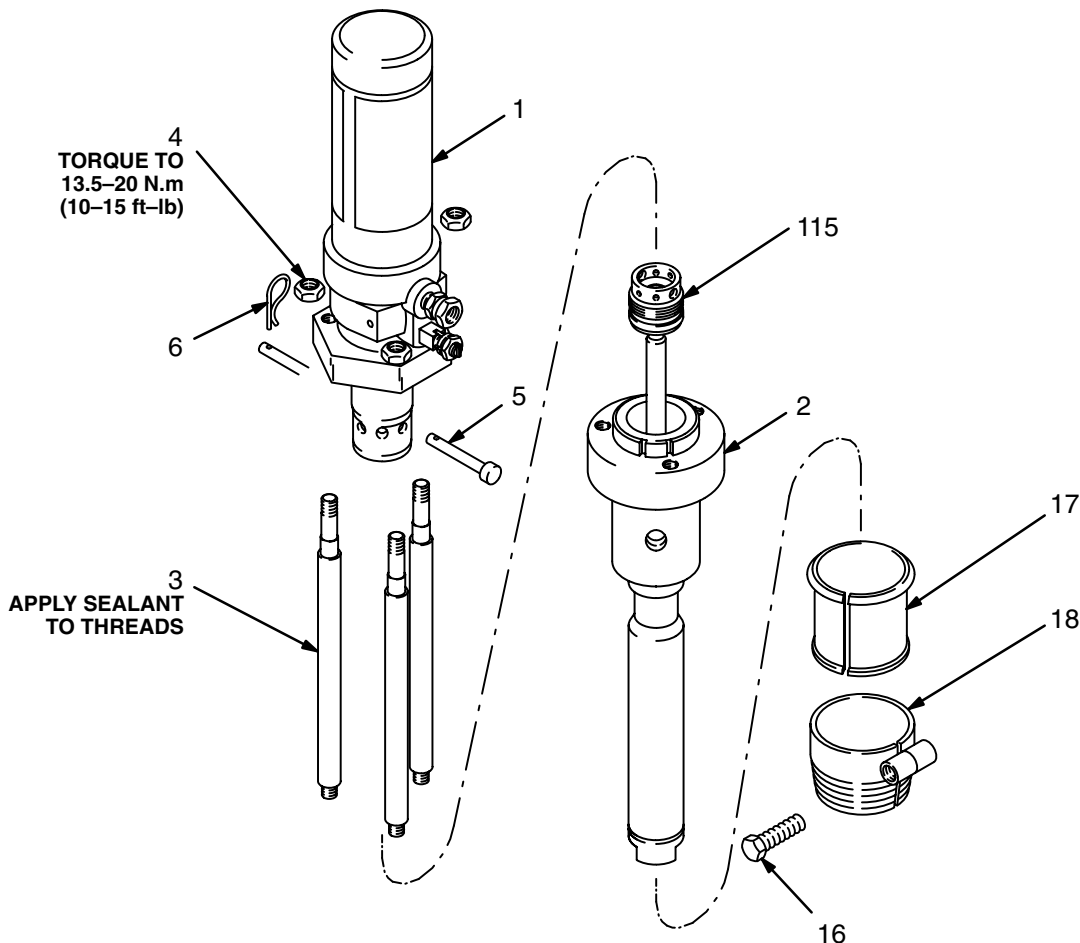
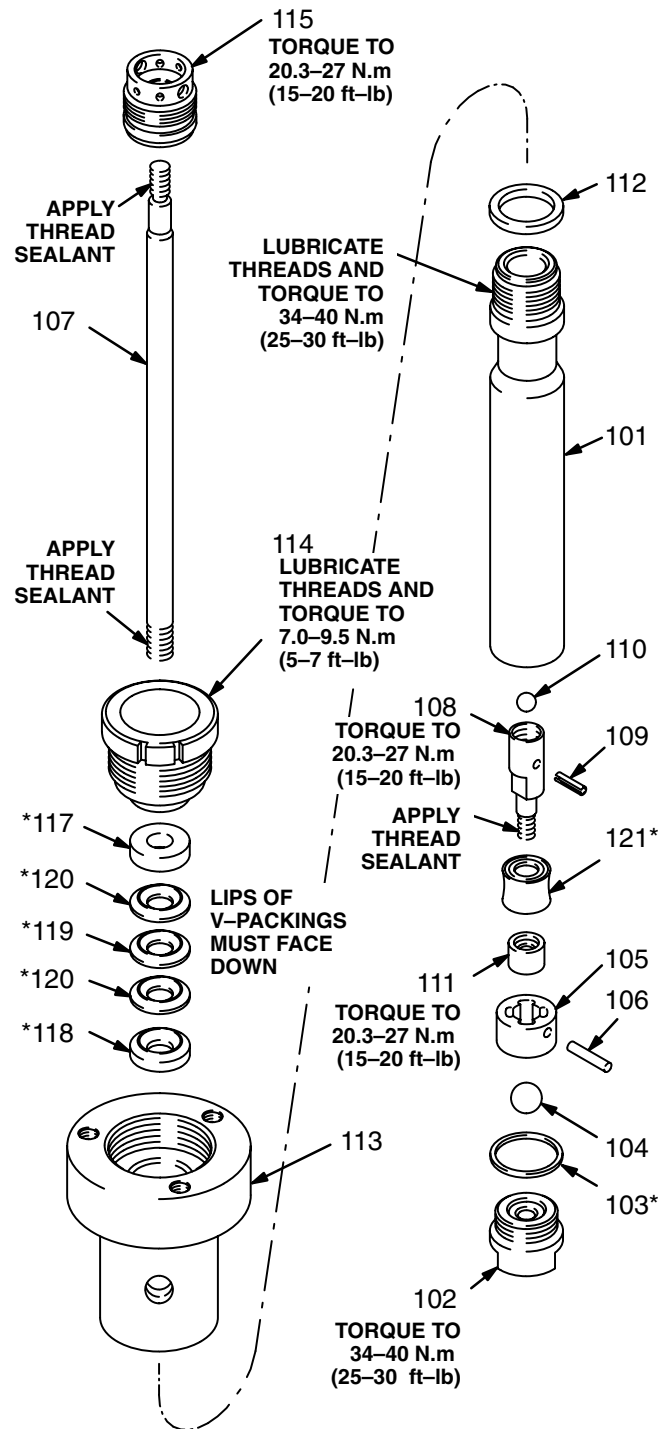

Fig. 6
Fig. 7
DISPLACEMENT PUMP SERVICE (See Figs. 6 & 7)
3. Disconnect the air and fluid hoses. Unscrew the bung adapter (18) and remove the pump from its mounting. Loosen the screw (16) and remove the bung adapter from the pump.
4. Remove the three locknuts (4) from the tie rods (3). Remove the spring clip (6) and pin (5) holding the coupling (115) in the air motor (1). Unscrew the coupling from the air motor. Pull the air motor (1) off the displacement pump (2). See Fig. 6.
5. Unscrew the tie rods (3) from the displacement pump (2).
6. Hold the pump upside down and unscrew the intake valve (102) from the pump cylinder (101). See Fig. 7. Remove the ball guide (105), ball (104), and ball stop pin (106) from the cylinder, being careful that they do not fall out. Remove the gasket (103). Clean all parts and inspect for wear or damage. Check the ball and seat for nicks.
7. Loosen, but do not remove the packing nut (114). Unscrew the coupling (115) from the displacement rod (107) and push the rod down until it clears the bottom of the cylinder (101). Pull the displacement rod out the bottom of the cylinder.
8. Unscrew the piston stud (108) from the displacement rod (107). Remove the piston nut (111) and piston packing (121). Drive the pin (109) out of the piston and remove the ball (110). Clean and inspect all parts for wear or damage.
9. Unscrew the cylinder (101) from the outlet housing (113). Inspect the inner surface of the cylinder and the outer surface of the displacement rod (107) for scoring which can damage the throat packings. Remove and inspect the o-ring (112).
10. Unscrew the packing nut (114) and remove the throat packings from the outlet housing (113). Clean and inspect all parts for wear or damage.
11. Lubricate the throat packings and install them in the outlet housing (113) one at a time as follows, *with the lips of the v-packings facing down*: male gland (118*), one UHMWPE v-packing (120*), the PTFE v-packing (119*), the other UHMWPE v-packing (120*), and the female gland (117*). Lubricate the threads of the packing nut (114) and loosely install in the outlet housing. See Fig. 7.
12. Install the ball (110) in the piston stud (108). Press fit the ball stop pin (109) in the hole of the piston stud so it is flush with or below the stud's surface. Apply thread sealant to the displacement rod (107) threads and screw the piston stud (108) onto the rod. Torque to 20.3–27 N.m (15–20 ft-lb).
13. Install the piston packing (121*) on the piston stud (108). Apply sealant to the threads of the piston stud (108) and screw the piston nut (111) onto the stud. Torque to 20.3–27 N.m (15–20 ft-lb).
14. Lubricate the o-ring (112) and install it in the outlet housing (113). Lubricate the threads of the cylinder (101) and screw it into the outlet housing. Torque to 34–40 N.m (25–30 ft-lb). Push the displacement rod (107) up into the pump cylinder from the bottom until it clears the packing nut (114).
15. Apply sealant to the threads of the displacement rod (107) and screw the coupling (115) onto the rod. Torque to 20.3–27 N.m (15–20 ft-lb).
16. Torque the packing nut (114) to 7.0–9.5 N.m (5–7 ft-lb).
17. Install the pin (106) in the ball guide (105). Insert the ball guide into the pump cylinder (101) so the pin (106) is toward the top of the pump.
18. Install the gasket (103*) on the intake valve (102). Place the ball (104) on the seat of the intake valve, and screw the valve into the cylinder. Torque to 34–40 N.m (25–30 ft-lb).
19. Screw the coupling (115) into the air motor (1). Line up the holes and secure with the pin (5) and spring clip (6). See Fig. 6.
20. Apply sealant to the threads of the tie rods (3) and screw the rods into the outlet housing (113). Mount the air motor (1) on the tie rods (3). Screw the lock-nuts (4) onto the tie rods loosely, then torque evenly to 13.5–20 N.m (10–15 ft-lb).
21. Screw the bung adapter (18) tightly into the pump mounting. Lower the pump through the bung adapter. Adjust the pump to the desired position and tighten the bung adapter screw (16) to hold it steady.